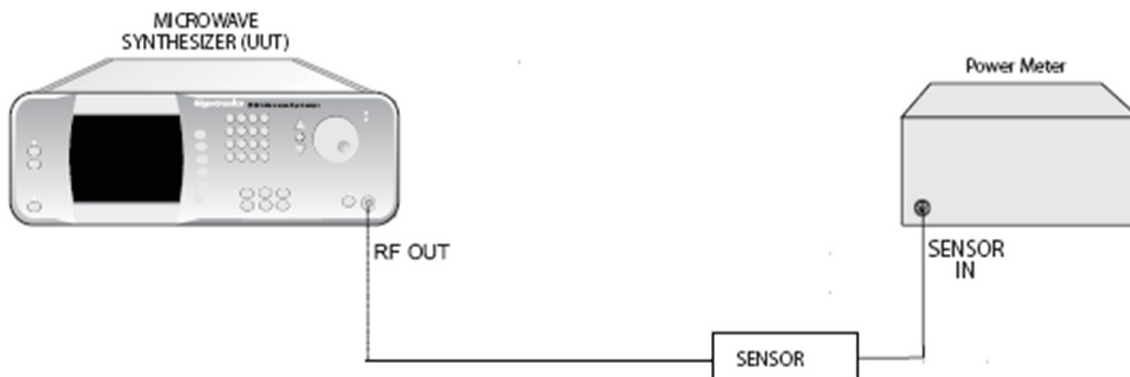

Figure 50: Power Specifications Test Setup
1.	Connect the equipment as shown in Figure 50 on page 106.